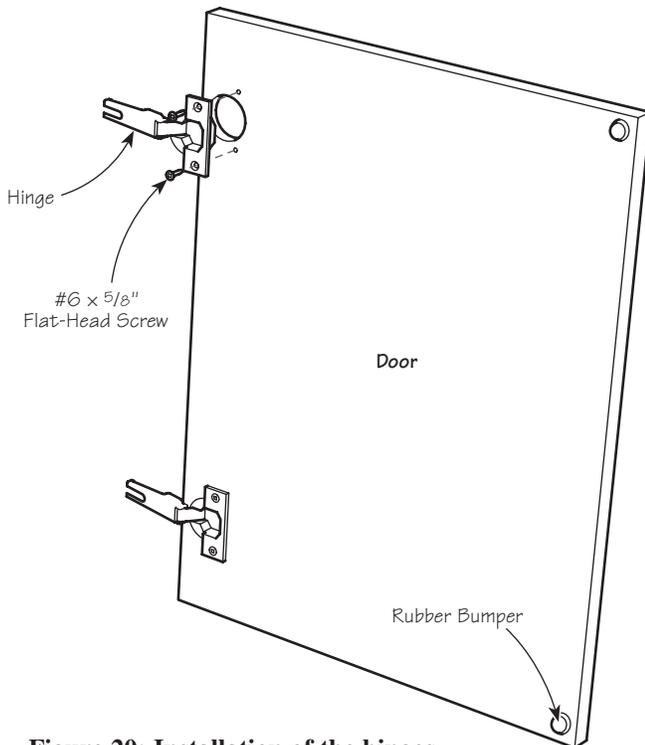

Figure 20: Installation of the hinges.
21. Install the doors. The hinges may need to be adjusted in order for the doors to be aligned properly. Adjustments can be made as shown below. Stick the included door bumpers onto the corners of the doors as shown in **Figure 20**.